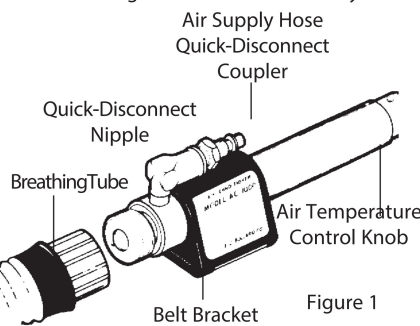

Figure 1
1. In an uncontaminated atmosphere screw the hose connector fitting on the end of the breathing tube to the fitting on the AC1000. Tighten hose connectors firmly (Figure 1).
6. To obtain cooler air, turn the air temperature control knob counter-clockwise (Figure 1). Maximum cooling is attained when knob is fully open and when there is maximum airflow out of the AC1000 exhaust port.